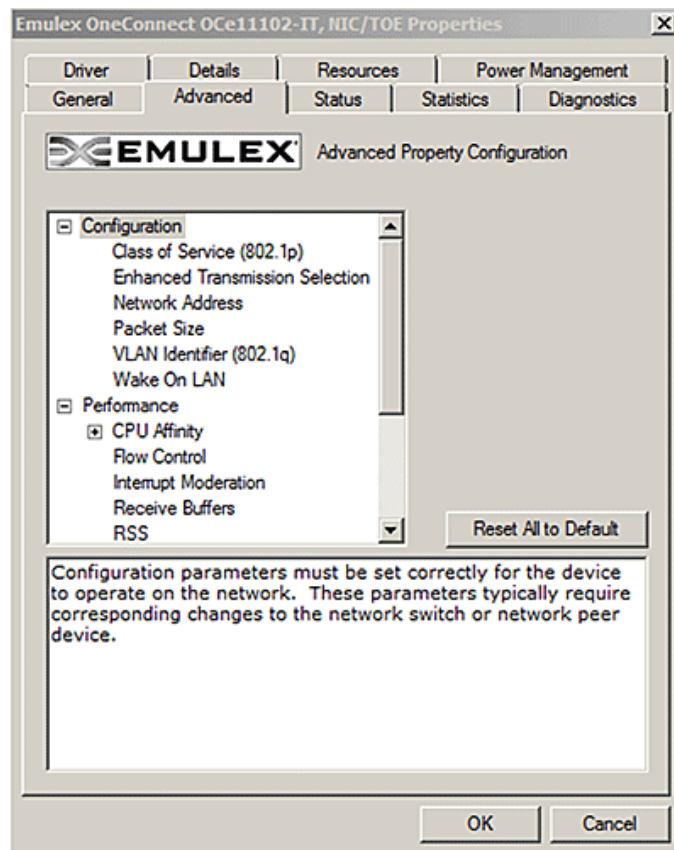

Figure 3-2 NIC Advanced Properties in Windows Server 2008
3. Click **Properties**, and click the **Advanced** tab (see Figure 3-2 on page 65).